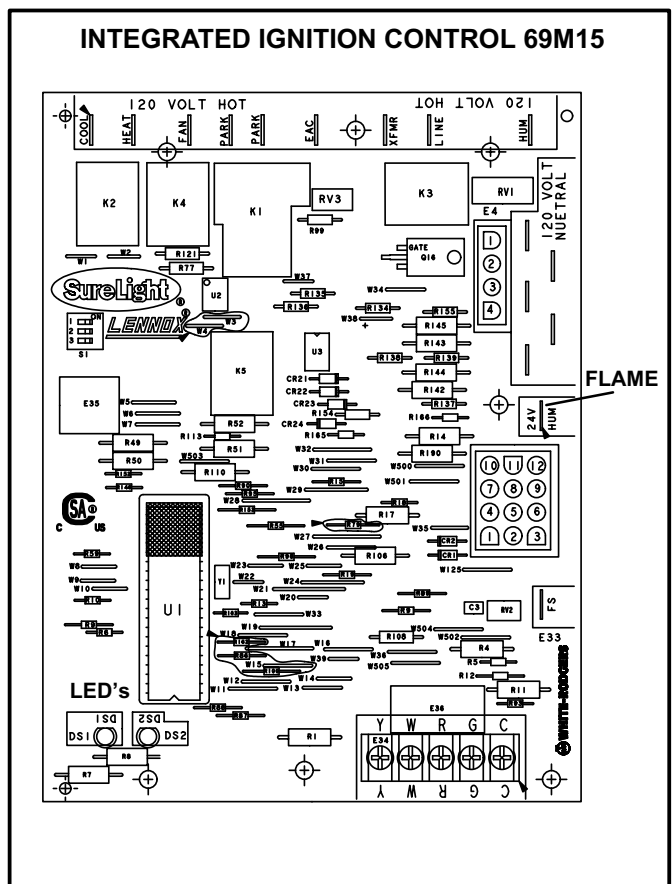

FIGURE 8
5. SureLight® Integrated Ignition Control 69M15 (A92) Figure 8